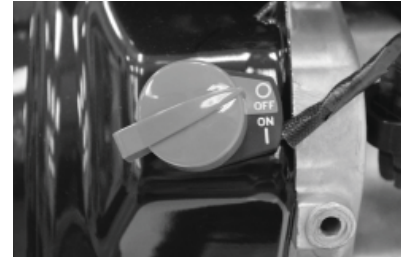

Figure 13 - On/Off switch
6. Open the fuel shutoff valve by turning the lever to the right / "ON" position. Close the choke (if the engine is cold) by moving the choke lever fully to the left. Move the throttle fully to the left to the "Run" or "Rabbit" position. Turn the ON / OFF switch to the "ON" position (see Figure 13).